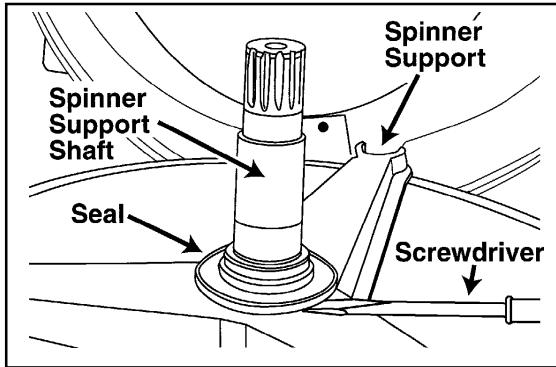

Figure 7-8
- 7 Remove the shaft seal (**Figure 7-8**).
- 3 With a flathead screwdriver, pry the seal carefully off the tub support shaft (*Figure 7-8*).